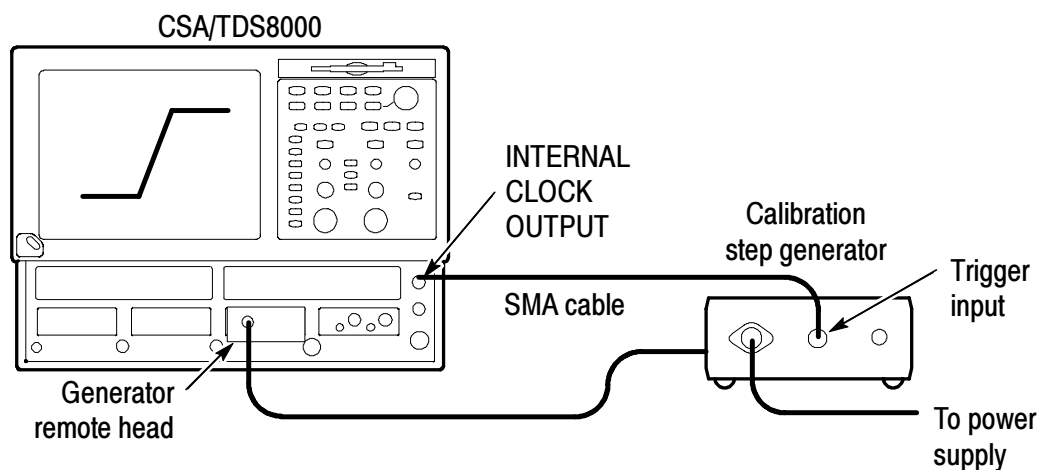

Figure 14: Test system rise time setup
1. Connect the test equipment as shown in Figure 14.
3. Adjust the oscilloscope horizontal and vertical position controls to display a signal similar to that shown in Figure 14.